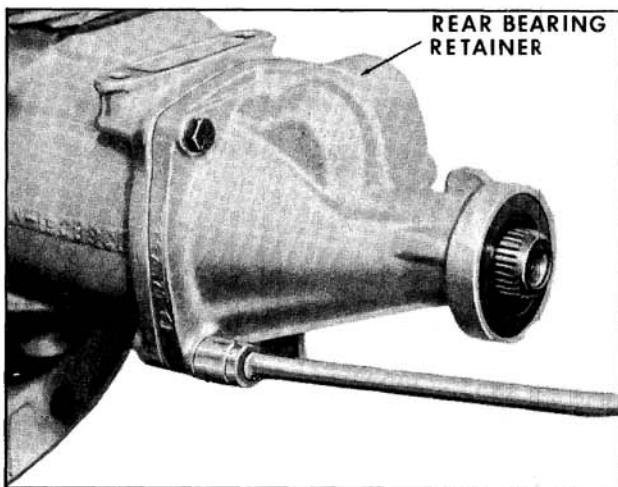

Fig. 6-367 Removing Rear Bearing Retainer
1. Remove four rear bearing retainer bolts with a 9/16" socket. Remove rear bearing retainer from case. (Fig. 6-367)